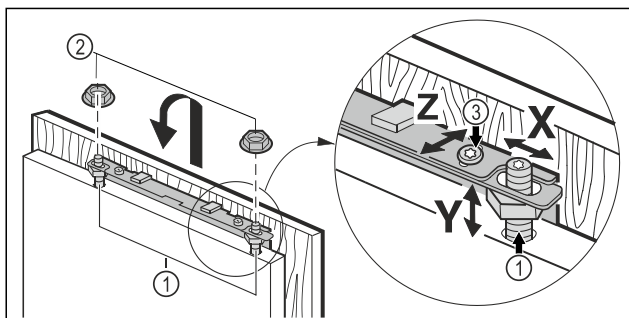

Fig. 18
- ▶ Hook the unit door onto the adjustment bolts Fig. 18 (1) and screw the lock nuts Fig. 18 (2) loosely onto the adjustment bolts.
- ▶ Align the unit door in height Y and in the lateral inclination: Adjust the adjustment bolt Fig. 18 (1) with a screwdriver.
- ▶ Tighten the lock nuts Fig. 18 (3).